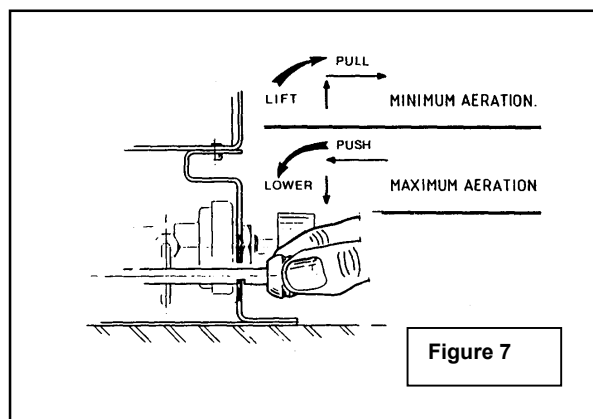

Figure 7
- Allow the appliance to warm up, (for at least fifteen minutes) in the fully aerated position, with the control lever pushed in to the locked position – see figure 7, also see figure 3 item No. 6 aeration control knob.